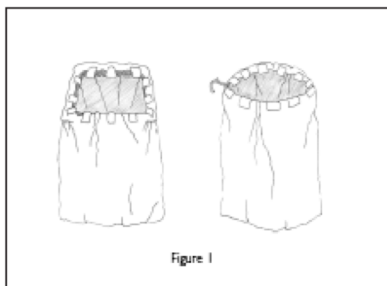

Figure 1
- Tape the mouth of the garbage bag to a bent coat hanger or a piece of cardboard to keep it open. (See Figure 1)